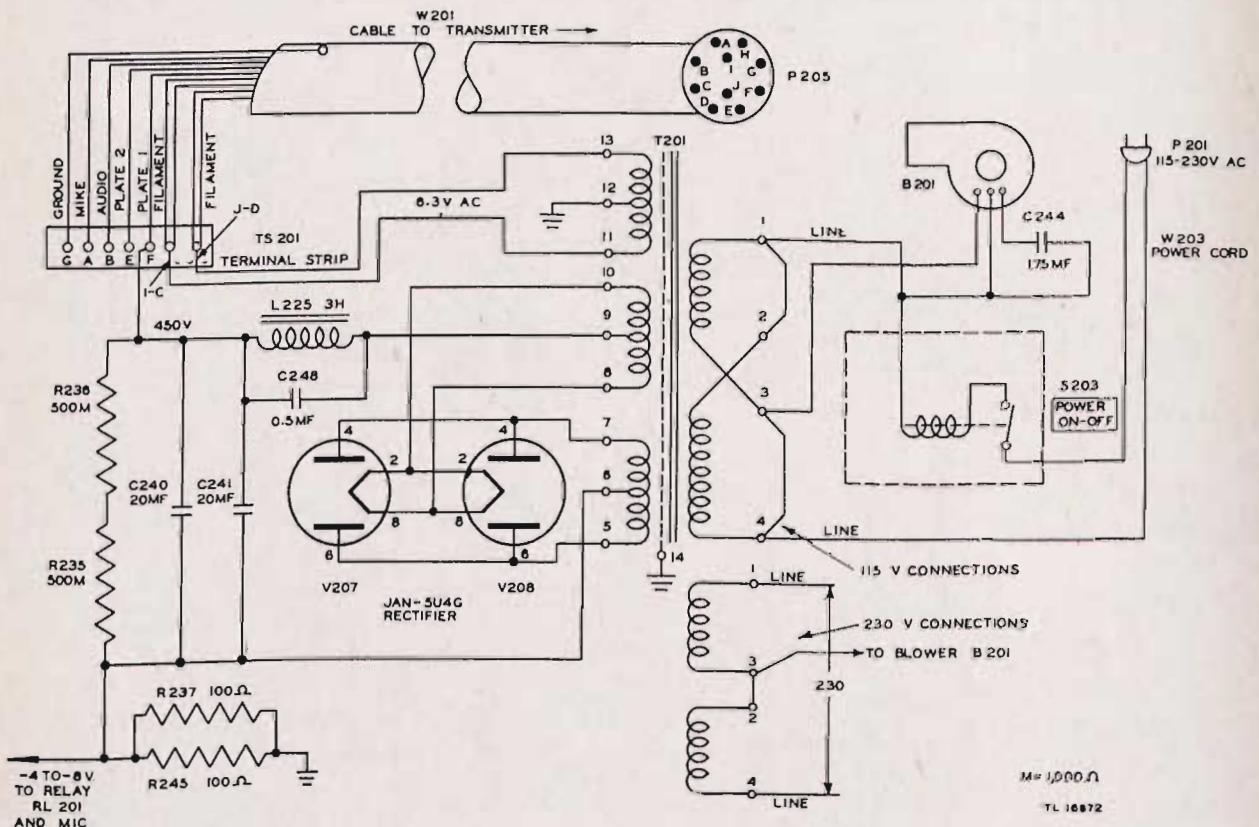

Figure 84. Power Pack PP-115/TRC-8 (XC-3), functional diagram of power circuits
a. Power Pack PP-115/TRC-8 (XC-3) furnishes plate, screen, heater, microphone, and relay voltages for the various stages of the transmitter. D-c output is 450 volts, and heater output is 6.3 volts alternating current. Input power is supplied through power cord W203 at 115 volts, 50 to 60 cycles (fig. 84). Operation on 230 volts, 50 to 60 cycles may be obtained by connecting the primary of the power transformer as described in paragraph 50. Circuit